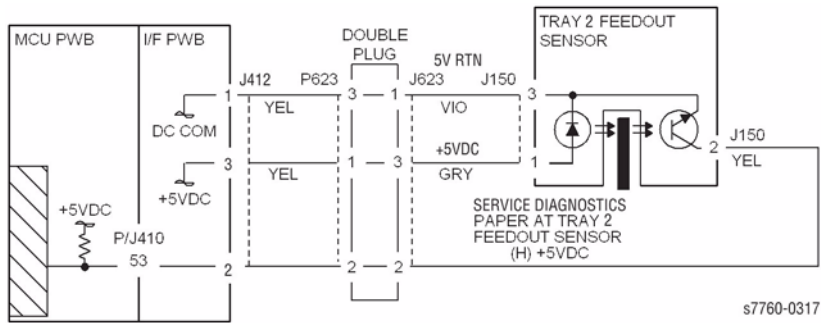
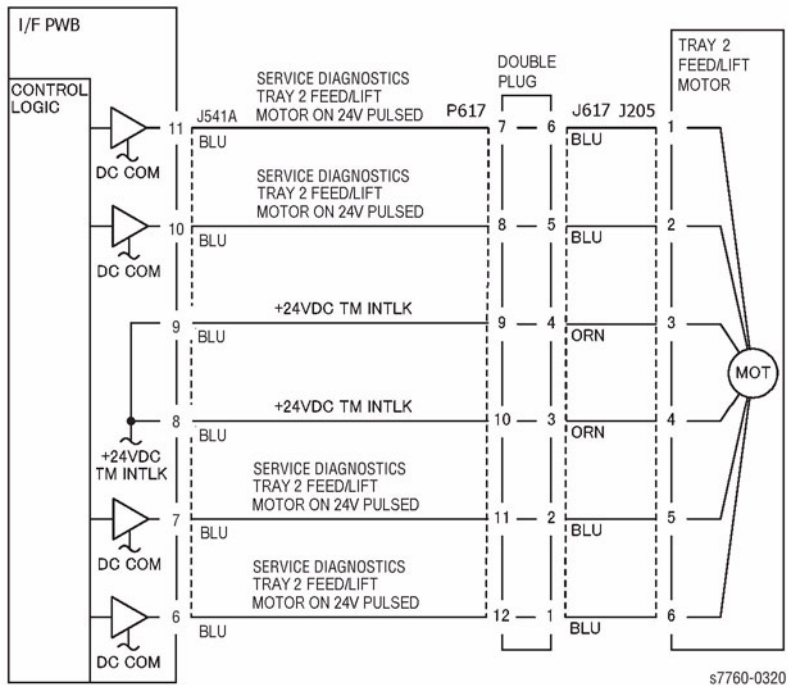

Figure 1 007-105 Tray 2 Feed Out Sensor
Figure 2 007-105 Tray 2 Feed/Lift Motor
- Ensure that the connectors shown in the circuit diagrams (Figure 1, Figure 2) are securely connected and that the wires are not damaged.